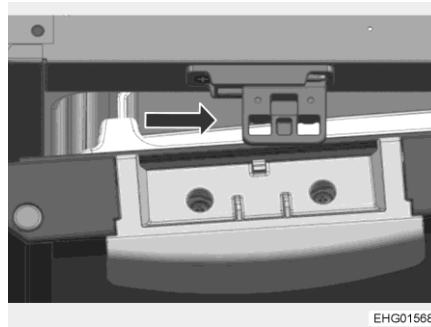

Fig. 113 Locking device
- Push the locking device to the right (Fig. 113, arrow).